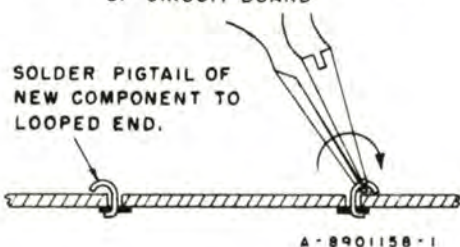

Figure 6 - Method for Replacement of Components on Printed Circuits
b. Using long nose pliers, form a loop of the lead ends as shown in figure 6.
c. To remove the defective component, snip the leads off at the component side of the board, see figure 6.
g. Crimp the wire tightly against the board (see figure 6), and cut off the excess component lead. Leave about 1/16 inch of wire protruding from the edge of the hole.